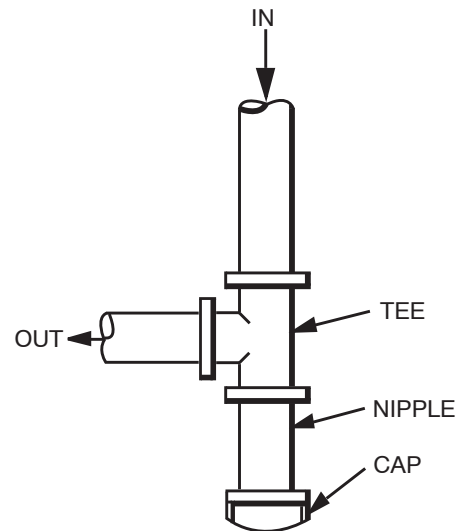

Fig. 7 - Sediment Trap
4. Install sediment trap in riser leading to heating section (See Fig. 7). This drip leg functions as a trap for dirt and condensate.